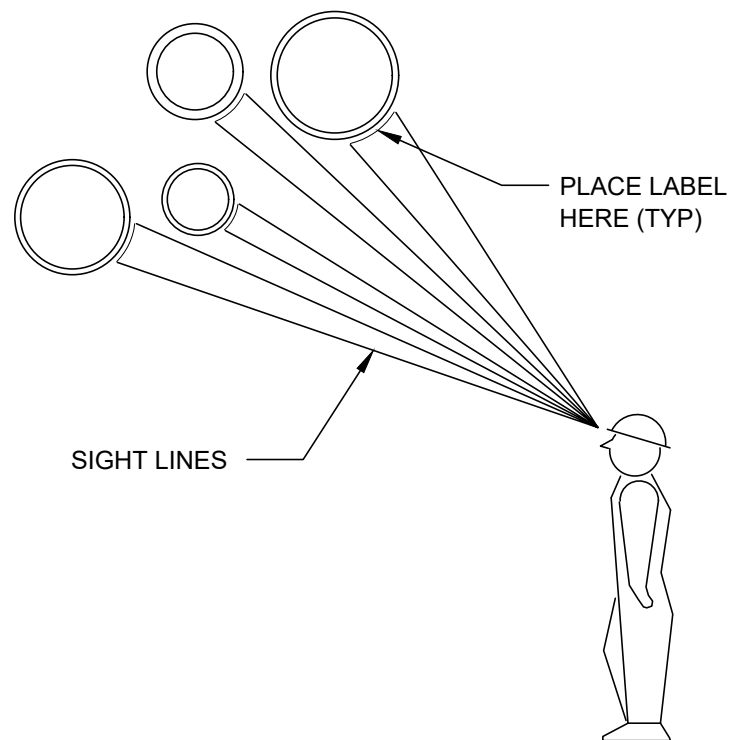

FIGURE 4: SIGHT LINE DETAIL
- WHERE PIPELINES ARE LOCATED ABOVE OR BELOW THE NORMAL LINE OF VISION, THE LEGEND SHALL BE PLACED BELOW OR ABOVE THE HORIZONTAL CENTERLINE OF THE PIPE (SEE FIGURE 4).